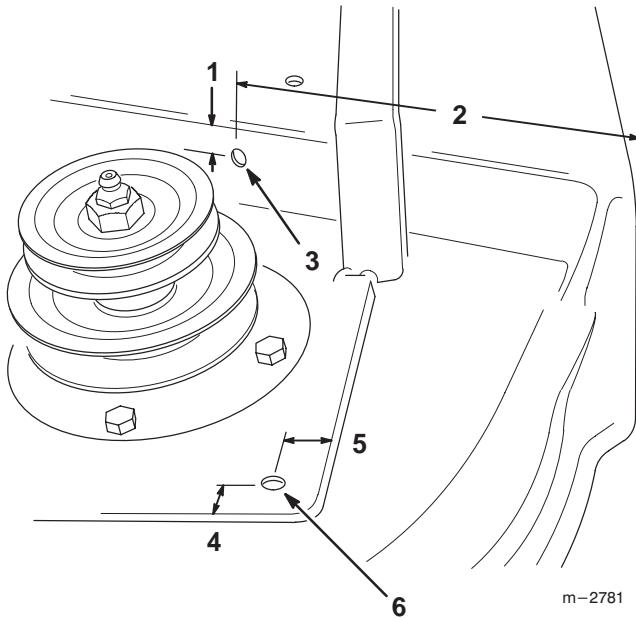

Figure 4
7. Mark the location of the deflector hole in the rear of the mower deck and drill one (1) 11/32" (9 mm) hole (Fig. 4).
8. Mark the location of the spring clip mounting hole, then drill the 13/32" (11 mm) hole in the deck (Fig. 4).